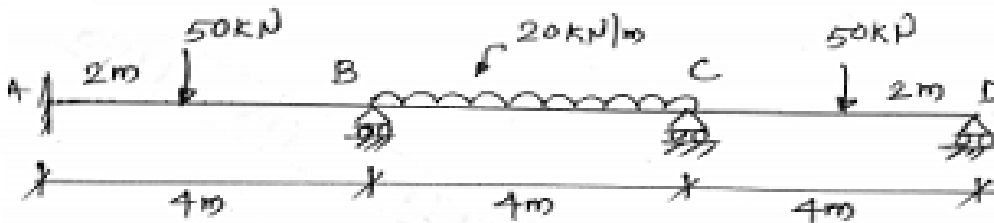

Fig. 5
- Q.8 Analyze the continuous beam shown in fig.5 by using Kani's method. 15
Q.8 Determine the support moments for the continuous beam shown in fig 5 by using moment distribution method, if support B sinks by 2.5 mm. 15